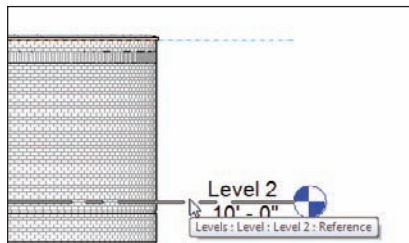

FIGURE 3.6 Waiting for the alignment to appear
6. When you see the blue line appear above Level 2, pick the Level 2 line, as shown in Figure 3.6.